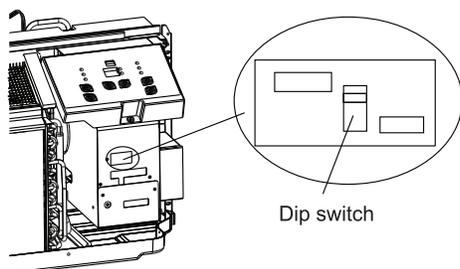

Fig. 5.2
- Pull the DIP switch to the Down (Off) position as shown in Fig. 5.2.